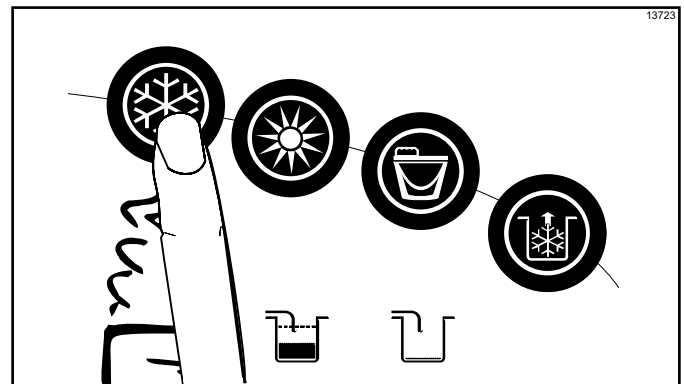

Figure 6-48
4. When ready to resume normal operation, press the Auto key . (See Figure 6-48.)